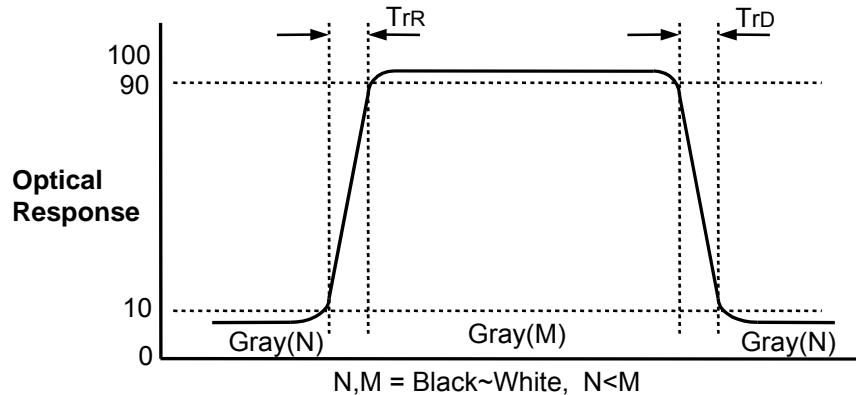

FIG. 10 Response Time
4. Response time is the time required for the display to transit from G(N) to G(M) (Rise Time, Tr_R) and from G(M) to G(N) (Decay Time, Tr_D). For additional information see the FIG. 10. (N < M)